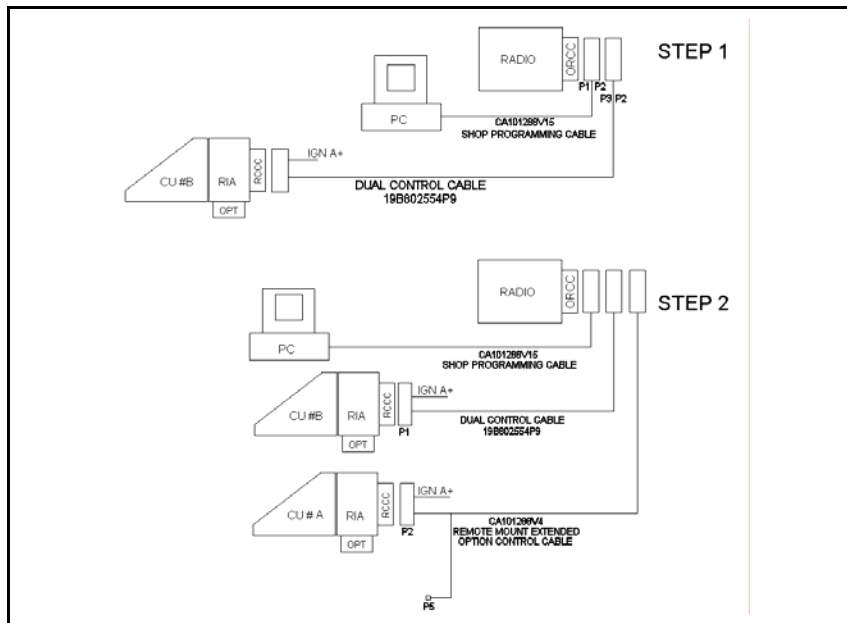

Figure 10-3: M7100^{IP} Dual Control Unit PC Programming Configuration Remote Mount
1. Connect the M7100^{IP} Remote Mount Radio with ProGrammer, as shown in Figure 10-3, STEP 1. Program the radio with the following control configurations:
2. Connect the Remote Mount Radio and the Auxiliary Control Unit together with ProGrammer, as shown in Figure 10-3, STEP 2. Program this configuration with the following files: